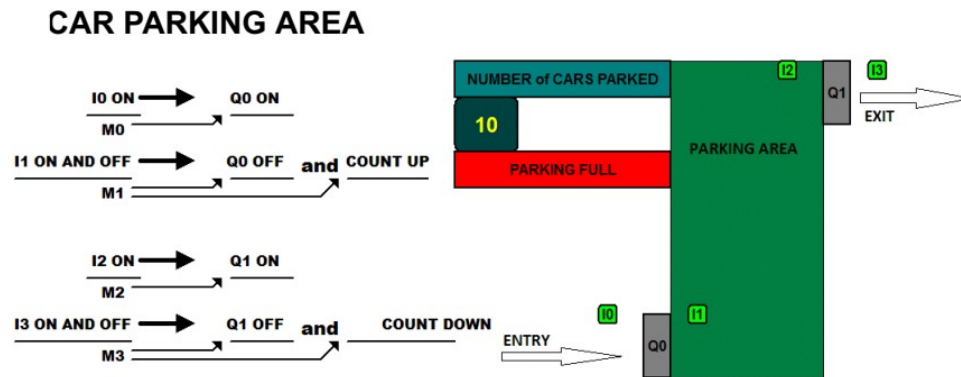

Figure Q3b
- b) Figure Q3b is a car parking area where we have entry gate Q0 and exit gate Q1. On entry we have two sensors, I0 outside and I1 inside. On exit also we have two sensors I2 and I3. When car comes in front of I0 sensor, gate Q0 is open. When car reaches to I1 sensor, nothing will happen. When car crosses sensor I1 then gate Q0 will be closed and it would be count up. Inside parking area when car reaches to sensor I2, exit gate Q1 is open. When car crosses I3 sensor then Q1 is closed and it would be count down on display to show the present number of cars inside parking area. Maximum 10 cars will be parked. When parking is full and 11th car comes in front of entry sensor I0, entry gate should not get open. Design a PLC program in ladder logic for the parking. [14 marks]